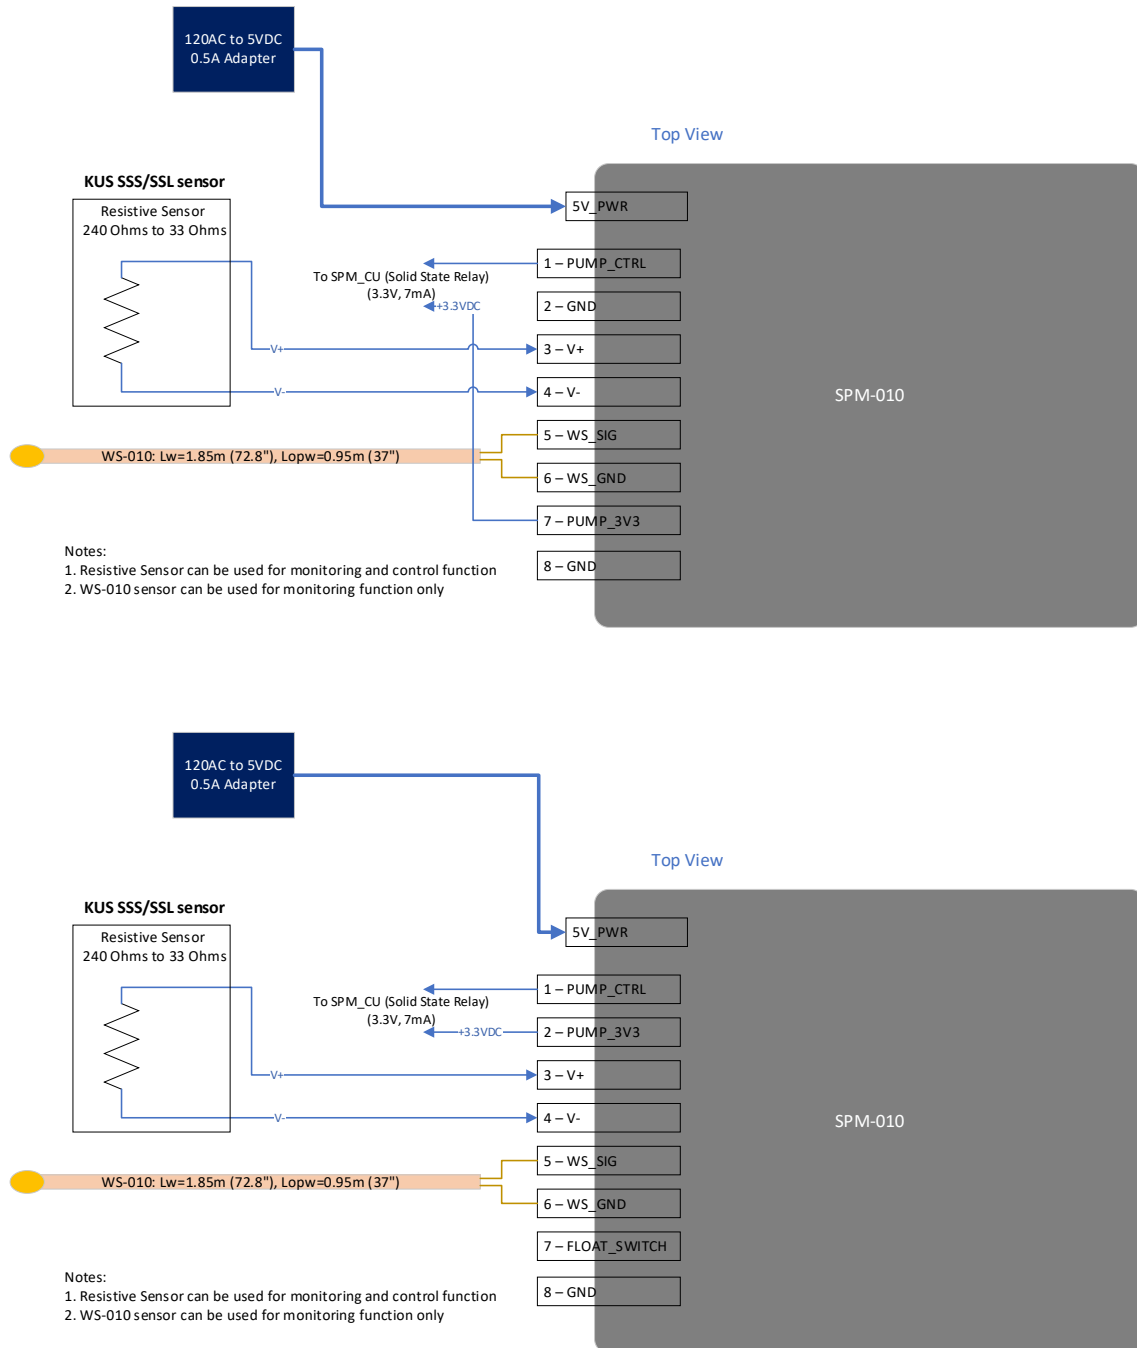

Figure 7 Connection Diagrams SPM-010 v4 (top) and SPM-010 v5 (bottom)
6. Connect SPM-010 in accordance with Figure 7 **Error! Reference source not found.**